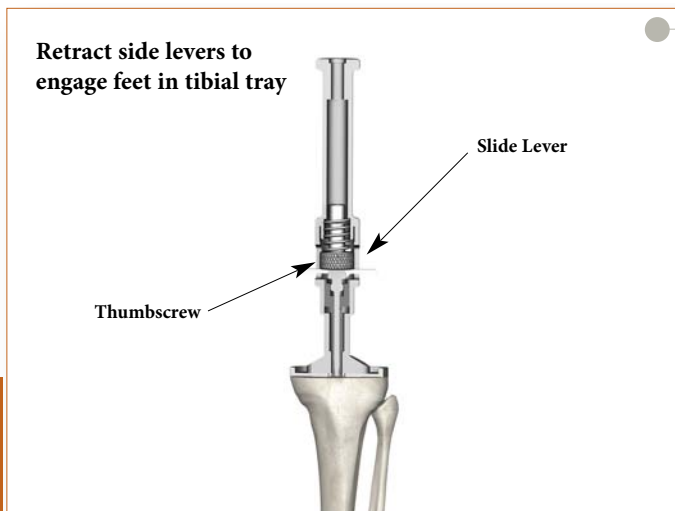

Figure 73
- ▶ Assemble the Tibial Component Impactor/Extractor to the implant. To assemble, retract the slide rod levers and insert the “feet” into the central hole in the tibial tray. Release the levers and tighten the knurled thumbscrew by hand to securely engage the Impactor/Extractor to the implant (Figure 73).